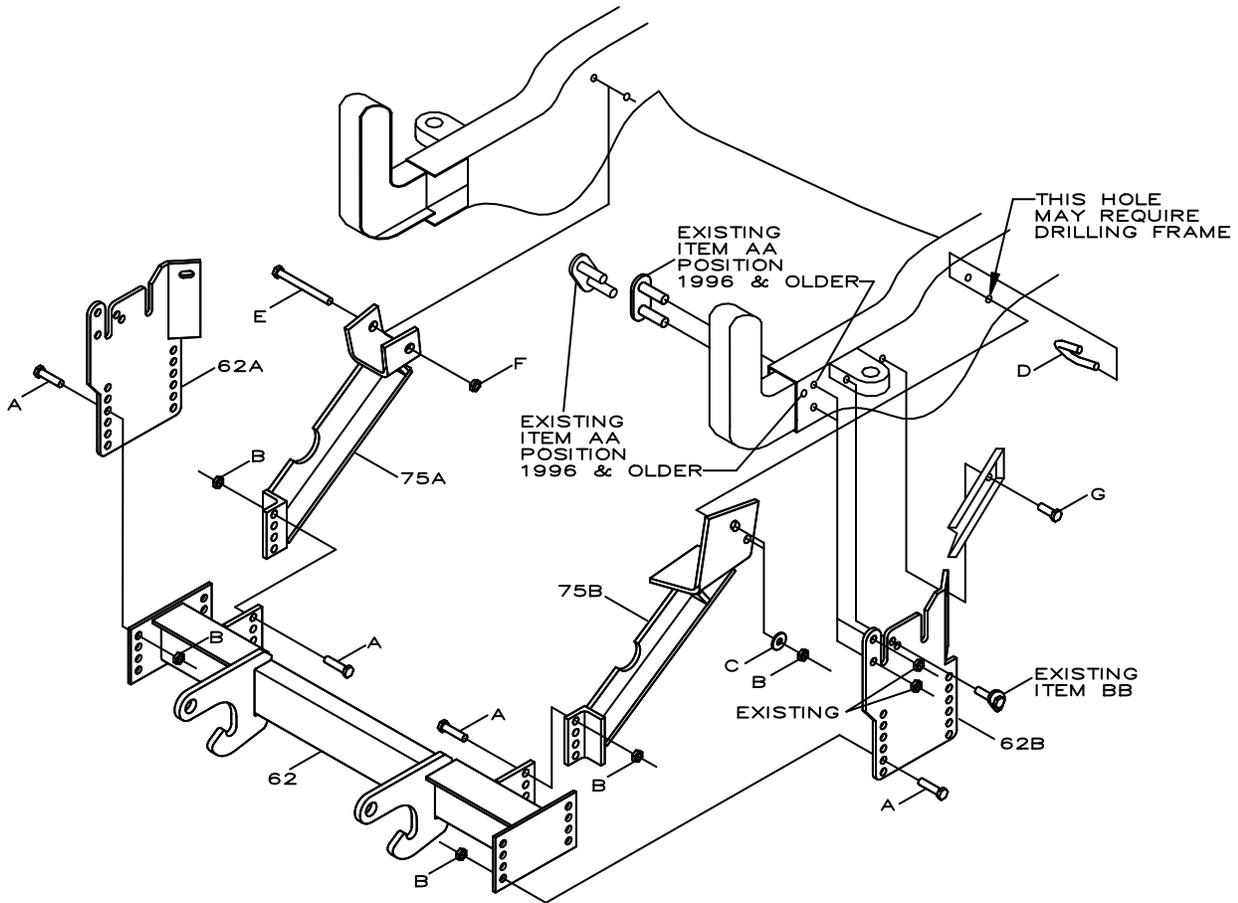
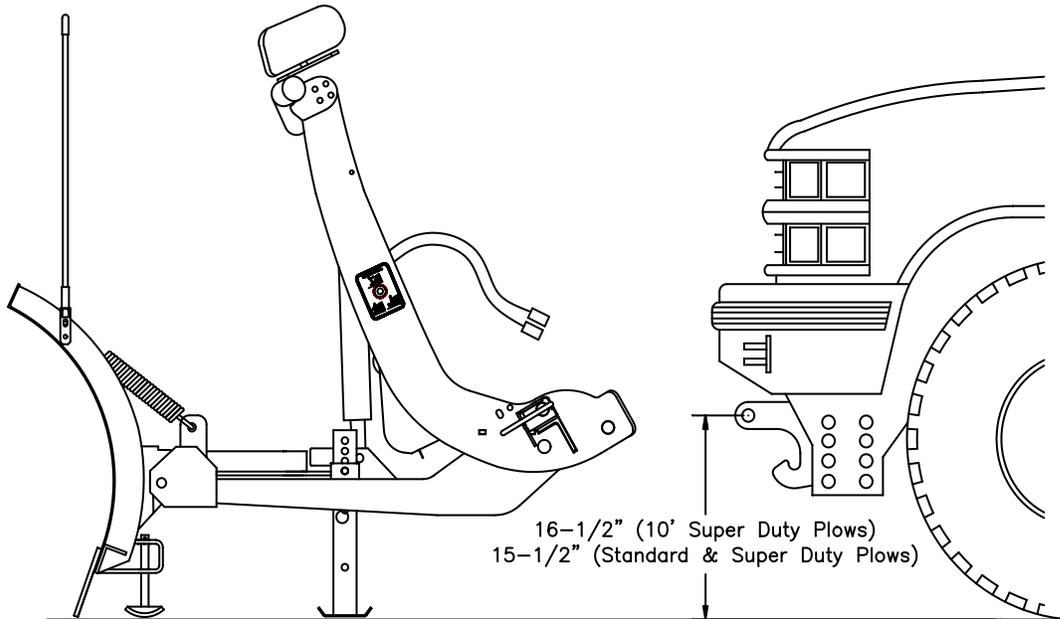

Figure 1
Figure 2
1. Loosen and remove the bolt bar (existing item AA, see Fig. 1) from the frame/bumper mounting tab. Loosen and remove the single bolt from the frame/bumper mounting tab (existing item BB, see Fig. 1). Loosen, remove and discard the bolt from the corner bumper brace. This item will be replaced by item G (see Fig. 1). When re-using the bolt bar (on 1997 & newer vehicles) insert the bar from the center of the vehicle outward. Only (1) stud of the bolt bar will be securing the PUSHBEAM SUPPORT PLATES (Ref. 62A and B, Fig. 1). Installing the bolt bar as described will allow the nuts to be re-tightened on two different surface levels. Position the PUSH BEAM SUPPORT PLATES (Ref. 62A and 62B, Fig. 1) to the front frame rails of the truck. Using the vehicles existing bumper bracket hardware and item G bolts, bolt the PUSH BEAM SUPPORT PLATES in place (see Fig. 1). Fasteners should only be finger tight.
2. Bolt the PUSH BEAM (Ref. 62, Fig. 1) in place using the 1/2" - 13 x 1-1/2" hex head bolts and self-locking nuts provided. NOTE: the proper height adjustment for the PUSH BEAM is approximately 15-1/2" from the ground to the center of the PUSH BEAM pin-receiving hole (see Fig. 2). Should the PUSH BEAM ASSEMBLY be mounted too high, the nose of the plow will tend to dig in while plowing. If the PUSH BEAM ASSEMBLY is mounted too low the wings of the plow will not lay flat against the ground. This will be most apparent when plowing in the scoop position.
3. Install the LEFT ANGLE BRACKET (Ref. 75B, Fig.1) from the mounting points on the
PUSH BEAM to the truck frame. On some models it may be necessary to drill the frame for the lower hole (see Fig. 1). Using the 1/2" - 13 x 1-1/2" hex head bolts, 1/2" - 13 U-bolt (Ref. D, Fig. 1) and self-locking nuts, secure the LEFT ANGLE BRACKET to the PUSH BEAM and the vehicle frame. Fasteners should only be finger tight.
4. Install the RIGHT ANGLE BRACKET (Ref. 75A, Fig. 1) from the mounting points on the PUSH BEAM to the truck frame. Using the 1/2" - 13 x 1-1/2" hex head bolts, the 1/2" - 13 self locking nuts, the 5/8" - 11 x 5" hex head bolt and self locking nut (Ref. E & F, Fig. 1), secure the RIGHT ANGLE BRACKET to the PUSH BEAM and the vehicle frame. Fasteners should only be finger tight.